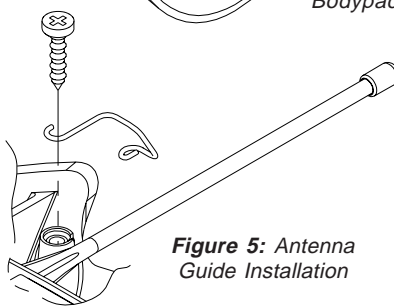
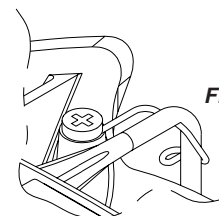

Figure 5: Antenna Guide Installation
Figure 6: Orientation of Antenna with Antenna Guide
- If desired, install antenna guide using screw provided (see figure 5). First drive in screw completely, then back it out slightly, hook on antenna guide and screw it down. Orient antenna within guide to achieve vertical antenna polarization (see figure 6).